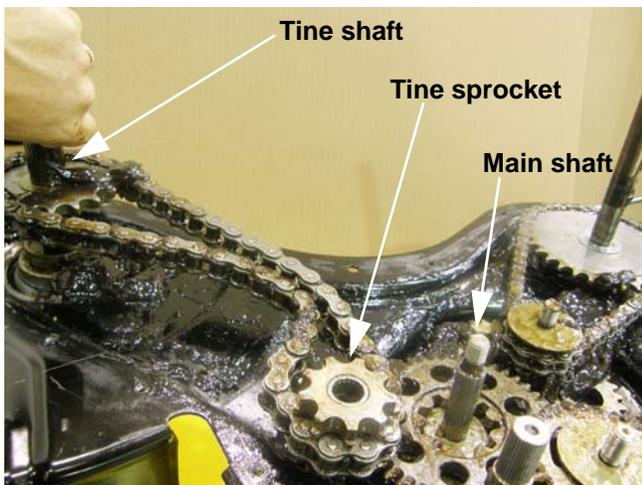

Figure 5.63
4. Set aside the main shaft sprocket that drives the tines: See Figure 5.63.